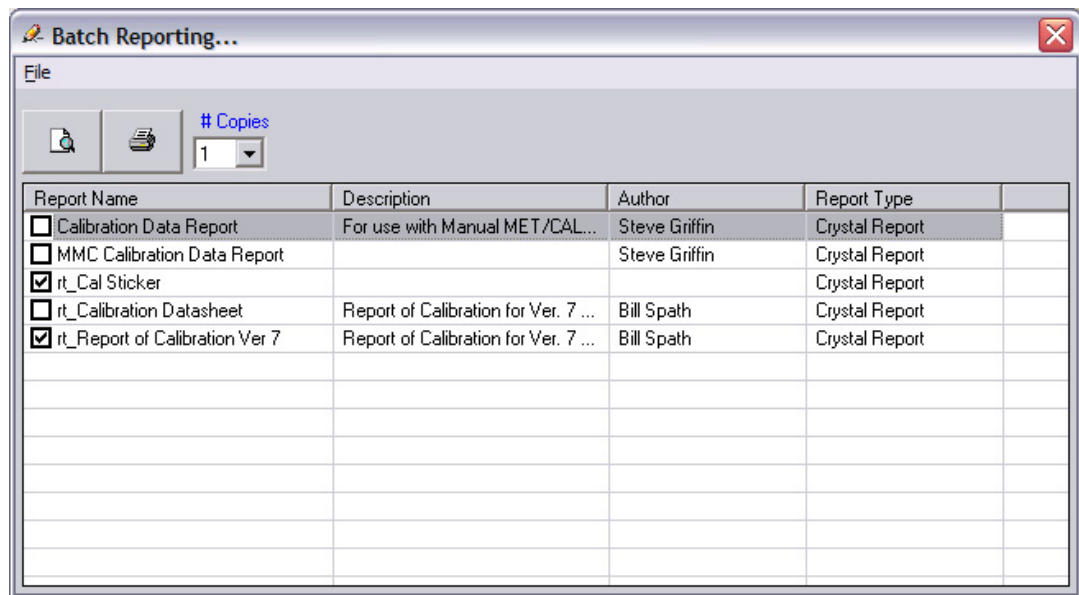

Figure 24. Batch Reporting Screen
1. Click the **Reports** button. This action opens the Batch Reporting screen in Figure 24.